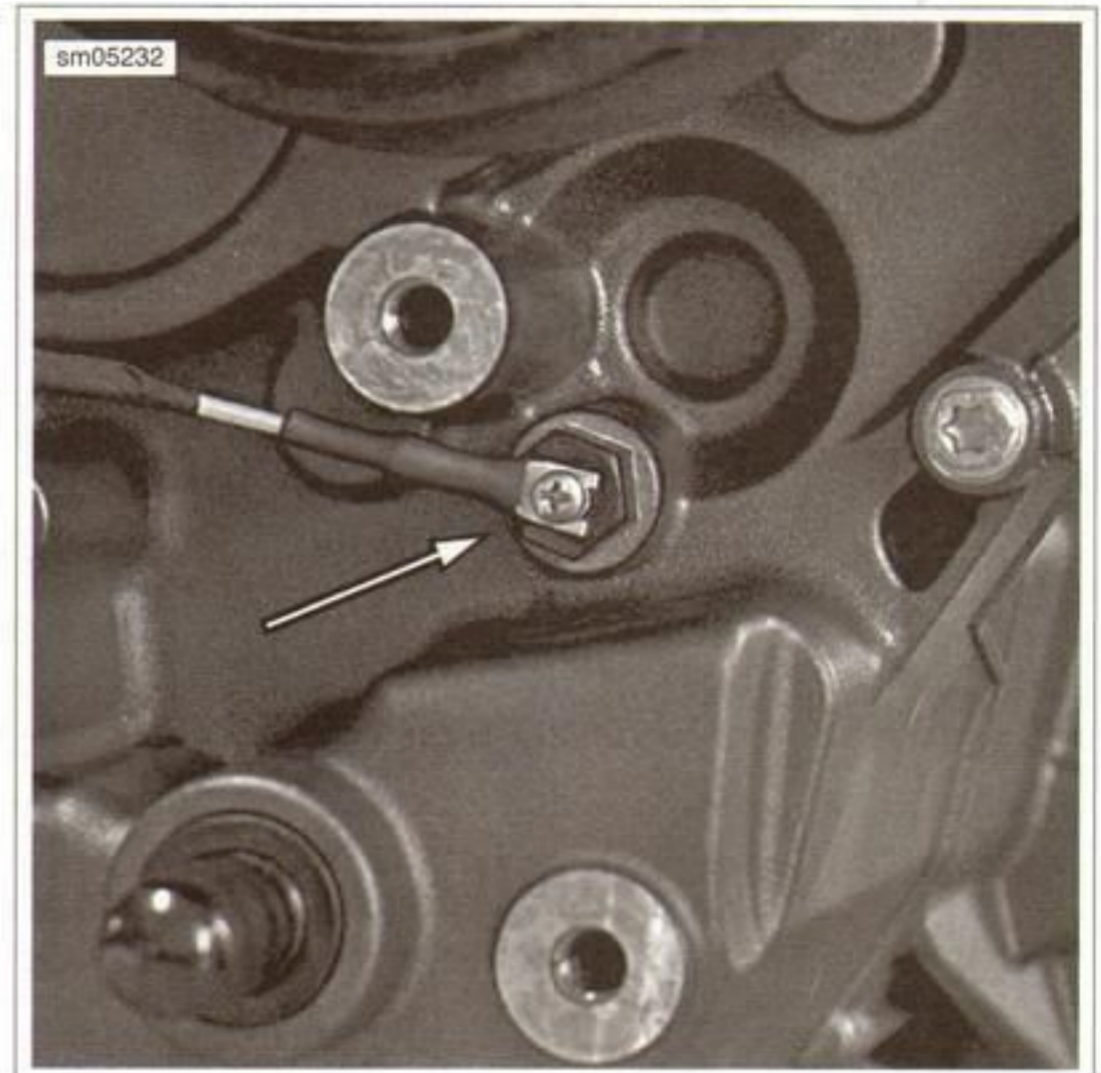

Figure 7-84. Neutral Indicator Switch Lead
3. See Figure 7-84. Loosen the screw on the switch and separate the wire lead from the neutral indicator switch.